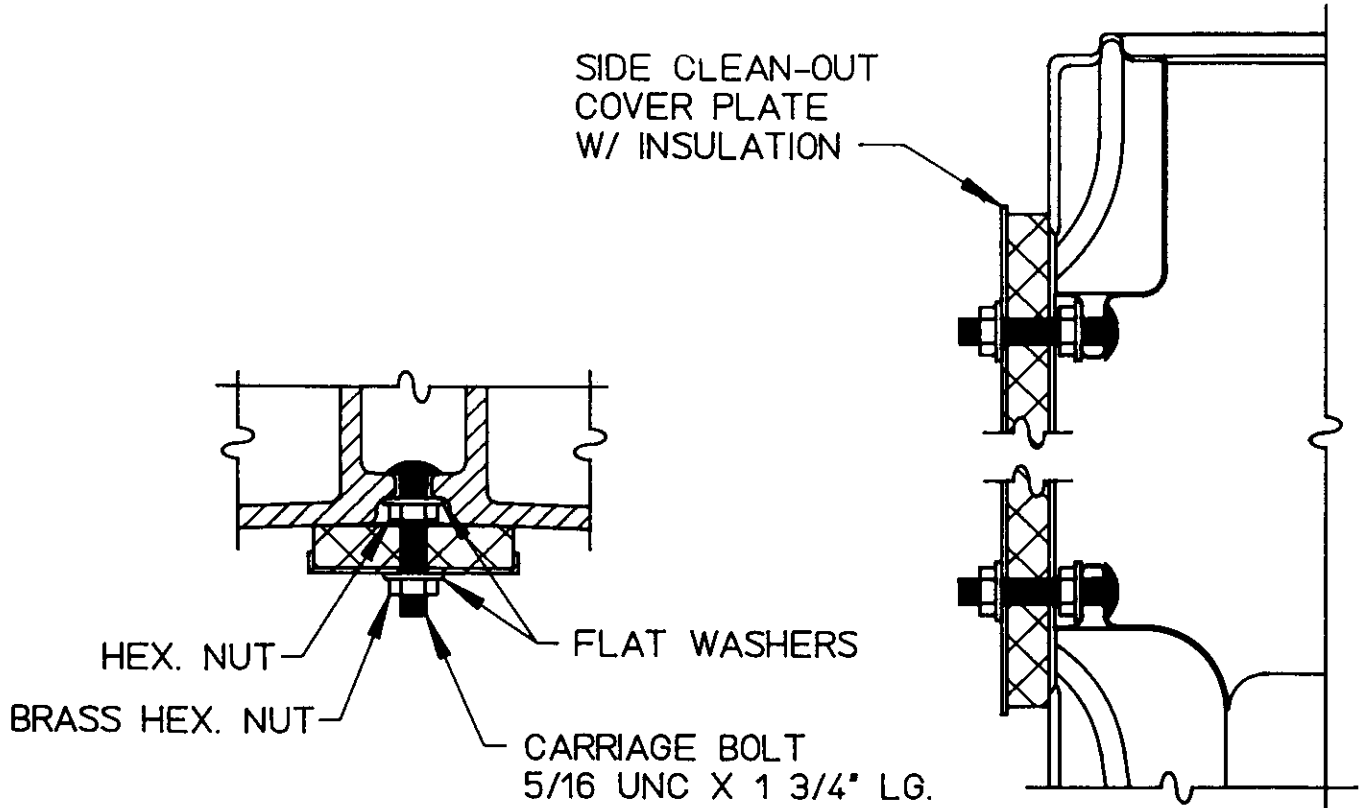

FIGURE 2
- 15— Remove clean-out cover plates and insulation (7). Each clean-out cover plate is attached to the boiler by using two carriage bolts, nuts and washers (6). Install the carriage bolts into the notch at the top and bottom of each clean-out opening, then secure them with a flat washer and steel nut as shown in Figure 2 locking them into place. Press the clean-out plate with insulation over the protruding carriage bolts until the bolts punch through the insulation so a flat washer and brass nut can be installed. Tighten down nuts snugly compressing the insulation to form a good seal around the clean-out opening.